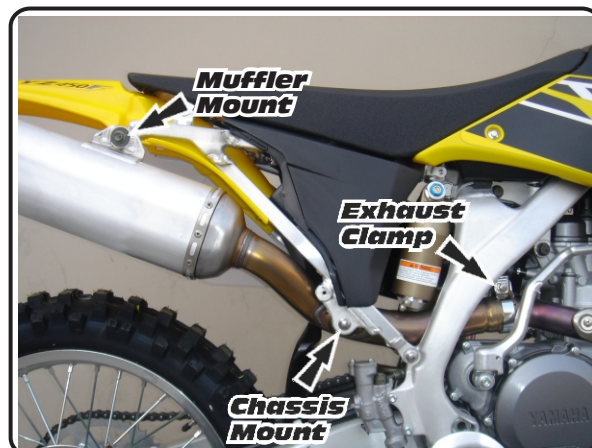

Fig. 2
2. Remove stock muffler (see Fig. 2 for fastener locations).